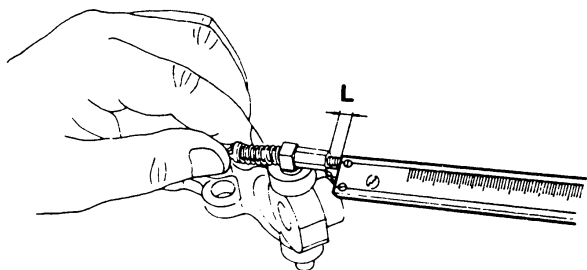

Fig. 125 Measuring the lock screw tip/
8. If the distance between the lock screw tip and the face of the adjusting nut is changed from the original value  $L$ , adjust the distance  $L$  using the adjusting nut (35/4/3) and lock screw (35/4/4) so that a distance of 3 to 6 mm is maintained. (Fig. 125)